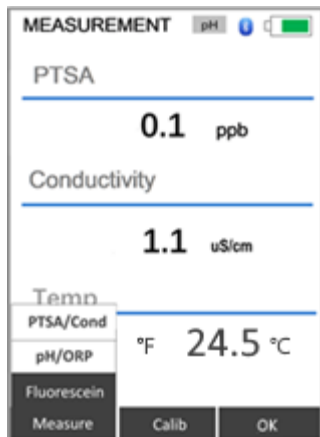

Figure 4. Select fluorescein measurement
The default measurement mode is for PTSA and conductivity. Press **Measure** (the < key) to launch the measurement selection menu and click **Measure** again to highlight **Flourescein**. Press the **OK** key to launch the fluorescein measurement page (Figure 4).
1. Lower the rubber seal down to touch the front face of the pH/ORP module (Figure 4). This is to power on the module. The indicator light of the module will be **green** and flashing when powered on. After the module is turned on, the seal can be positioned anywhere desired. If the module battery capacity is low, the indicator light will flash **red**.